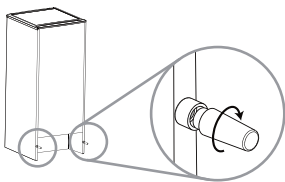

Fig.2
**2** If present, install the wall spacer in a central position at the rear of the appliance.(Fig.2)